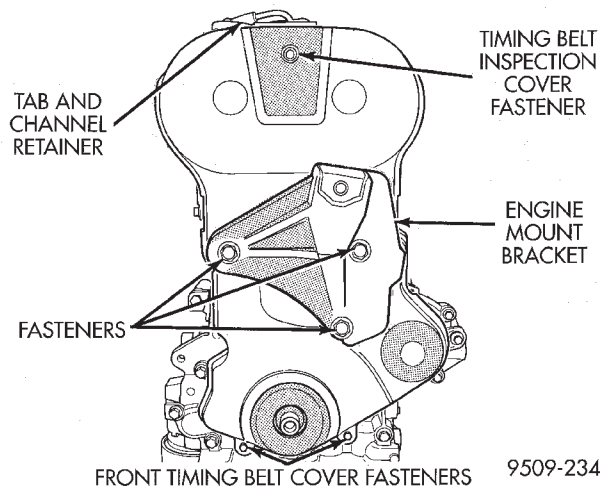

Fig. 51 Front Timing Belt Cover
- (1) Remove accessory drive belts. Refer to Group 07, Cooling System for procedures.
- (2) Raise vehicle on hoist and remove right inner splash shield.
- (3) Remove crankshaft damper bolt. Refer to Crankshaft Damper procedure outlined in this section.
- (4) Lower vehicle.
- (5) Support engine with a jack and remove right engine mount. Refer to procedure outline in this section.
- (6) Remove power steering pump assembly and set aside.
- (7) Remove engine mount bracket and timing belt cover fasteners, remove cover (Fig. 51).